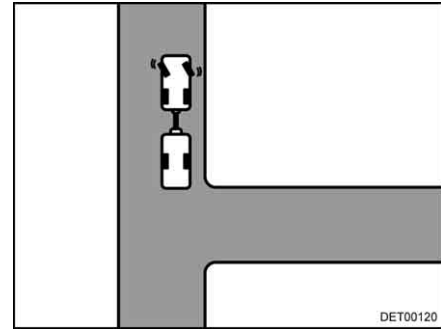

Fig. 16 Steer to the left
- Steer the stationary towing vehicle and trailer to the left (Fig. 16).